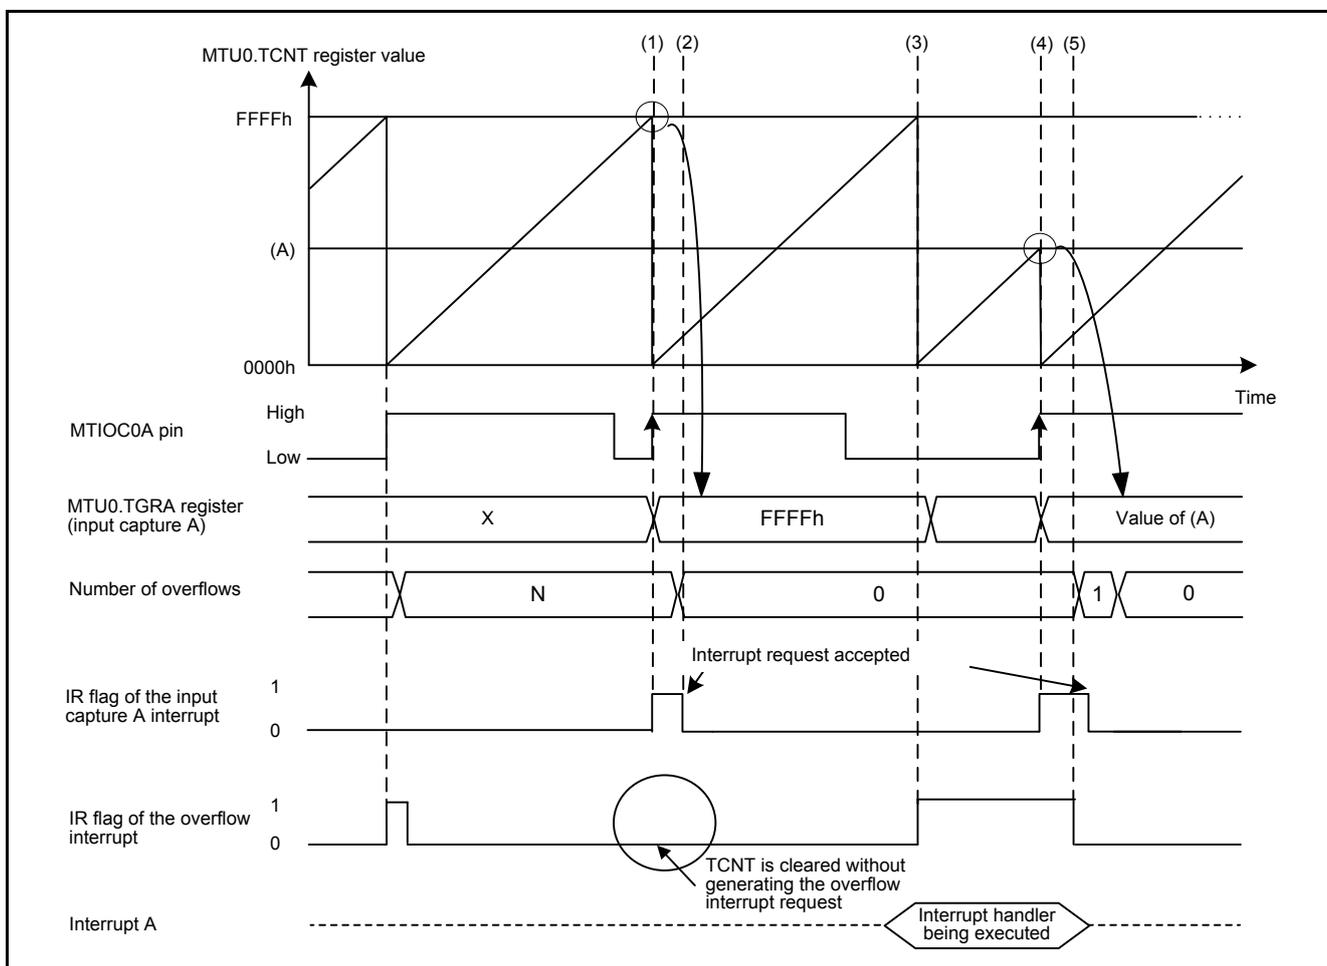

Figure 5.2 Timing Diagram When an Input Capture and Overflow Occur Simultaneously
- (1) When a rising edge occurs on the signal input to the MTIOC0A pin while the MTU0.TCNT register value is FFFFh, the MTU0.TCNT register is cleared and the input capture A interrupt request is generated after FFFFh in the MTU0.TCNT register is transferred to the MTU0.TGRA register.
- (2) In the input capture A interrupt handler, the number of overflows is cleared.
- (3) When the MTU0.TCNT register value overflows while an interrupt handler (hereinafter referred to as interrupt handler A) other than the overflow interrupt handler and input capture A interrupt handler is being executed, the overflow interrupt handler is delayed.
- (4) When a rising edge occurs on the signal input to the MTIOC0A pin while interrupt handler A is being executed, the MTU0.TCNT register value is transferred to the MTU0.TGRA register and the input capture A interrupt request is generated (input capture A interrupt handler is delayed).
- (5) When interrupt handler A is completed, the overflow interrupt which has the higher interrupt priority level is executed first. In the overflow interrupt handler, the number of overflows increments by 1. In the input capture A interrupt handler which is subsequently accepted, the pulse period is calculated. Then the number of overflows is cleared.
Figure 5.2 shows the Timing Diagram When an Input Capture and Overflow Occur Simultaneously. (1) to (5) in the figure correspond to (1) to (5) in the description above.